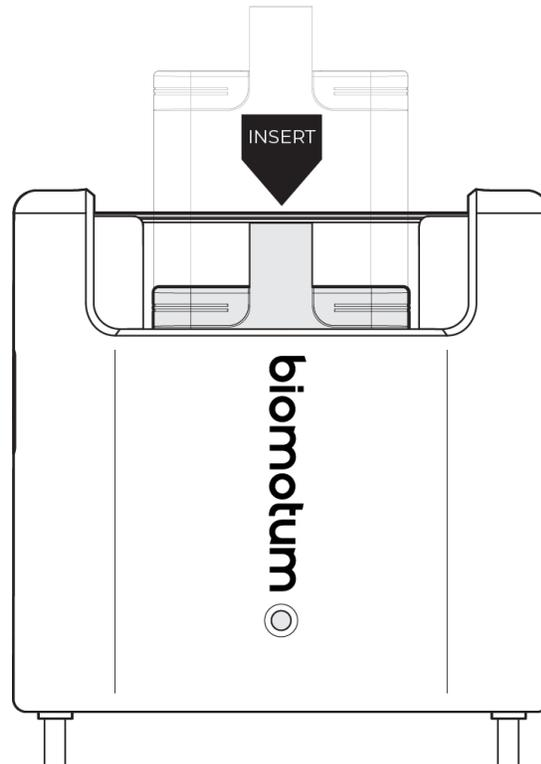

Figure 3. Battery fully inserted into the waist pack
**Caution:** Ensure the battery is inserted firmly into the waist pack so that no silver label (other than the pull tab) is showing. (Figure 3)